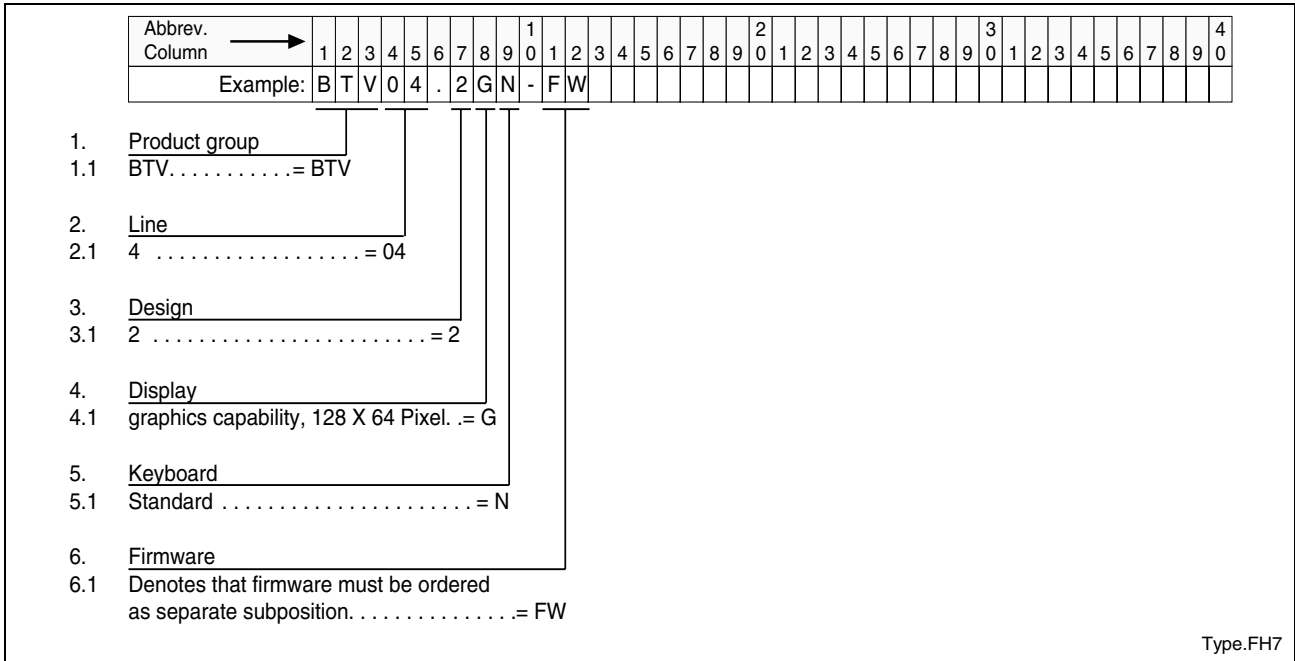

Fig. 9-1: BTV04 type code
- Fig. 9-1: BTV04 type code 9-1